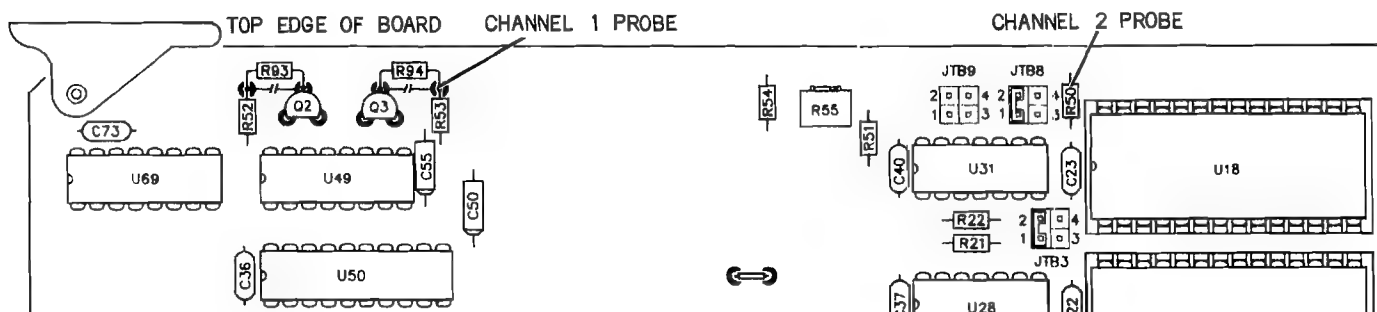

Figure 9-2 Cellular Calibration Test Points
6. Connect Channel 1 Probe of Oscilloscope to junction of R6594 and R6553. Connect Channel 2 Probe of Oscilloscope to junction of collector of Q6502 and R6550. (See Figure 9-2).